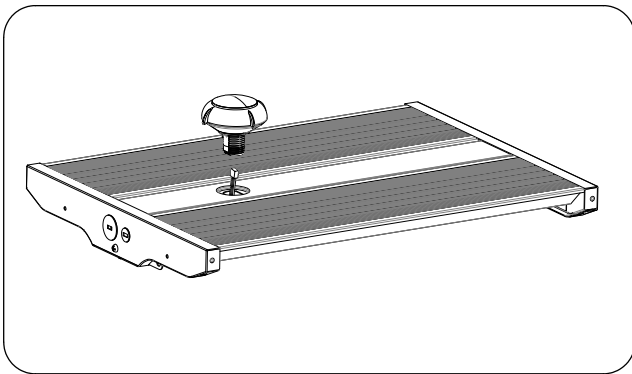

Figure 3
Step 2:Remove the flat cable from the back of the plate and insert the connector into the sensor terminal.(Figure 3)